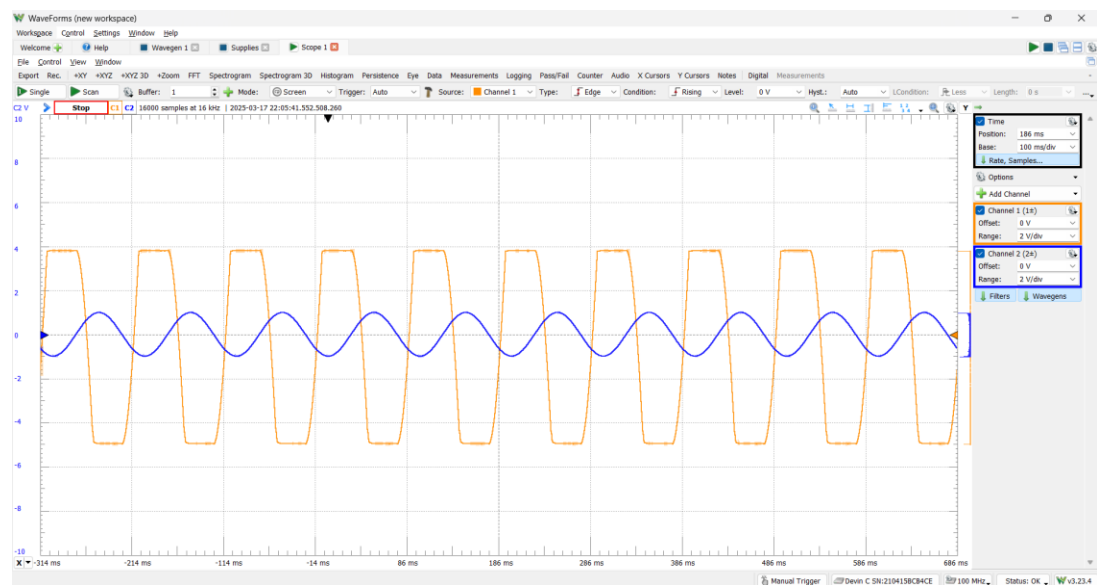

Figure 4: 10Hz 2VPP Sine Wave, Integrator output
- vi. Given the circuit in Figure 4, assume $R_3 = 10k\Omega$, $R_4 = 2.2M\Omega$, $C_3 = 100nF$ (104), $V_{CC+} = +5V$, and $V_{CC-} = -5V$. Consider two types of inputs: 1) a square wave, 2) a sine wave (both with frequency of 1KHz and peak-to-peak amplitude of 2V). Determine the output voltage and plot the relationship between the input voltage and the output voltage.
- vii. Build the circuit in Figure 4 using the analog discovery 3 and measure the corresponding outputs. Compare your theoretical analysis with your measured responses.